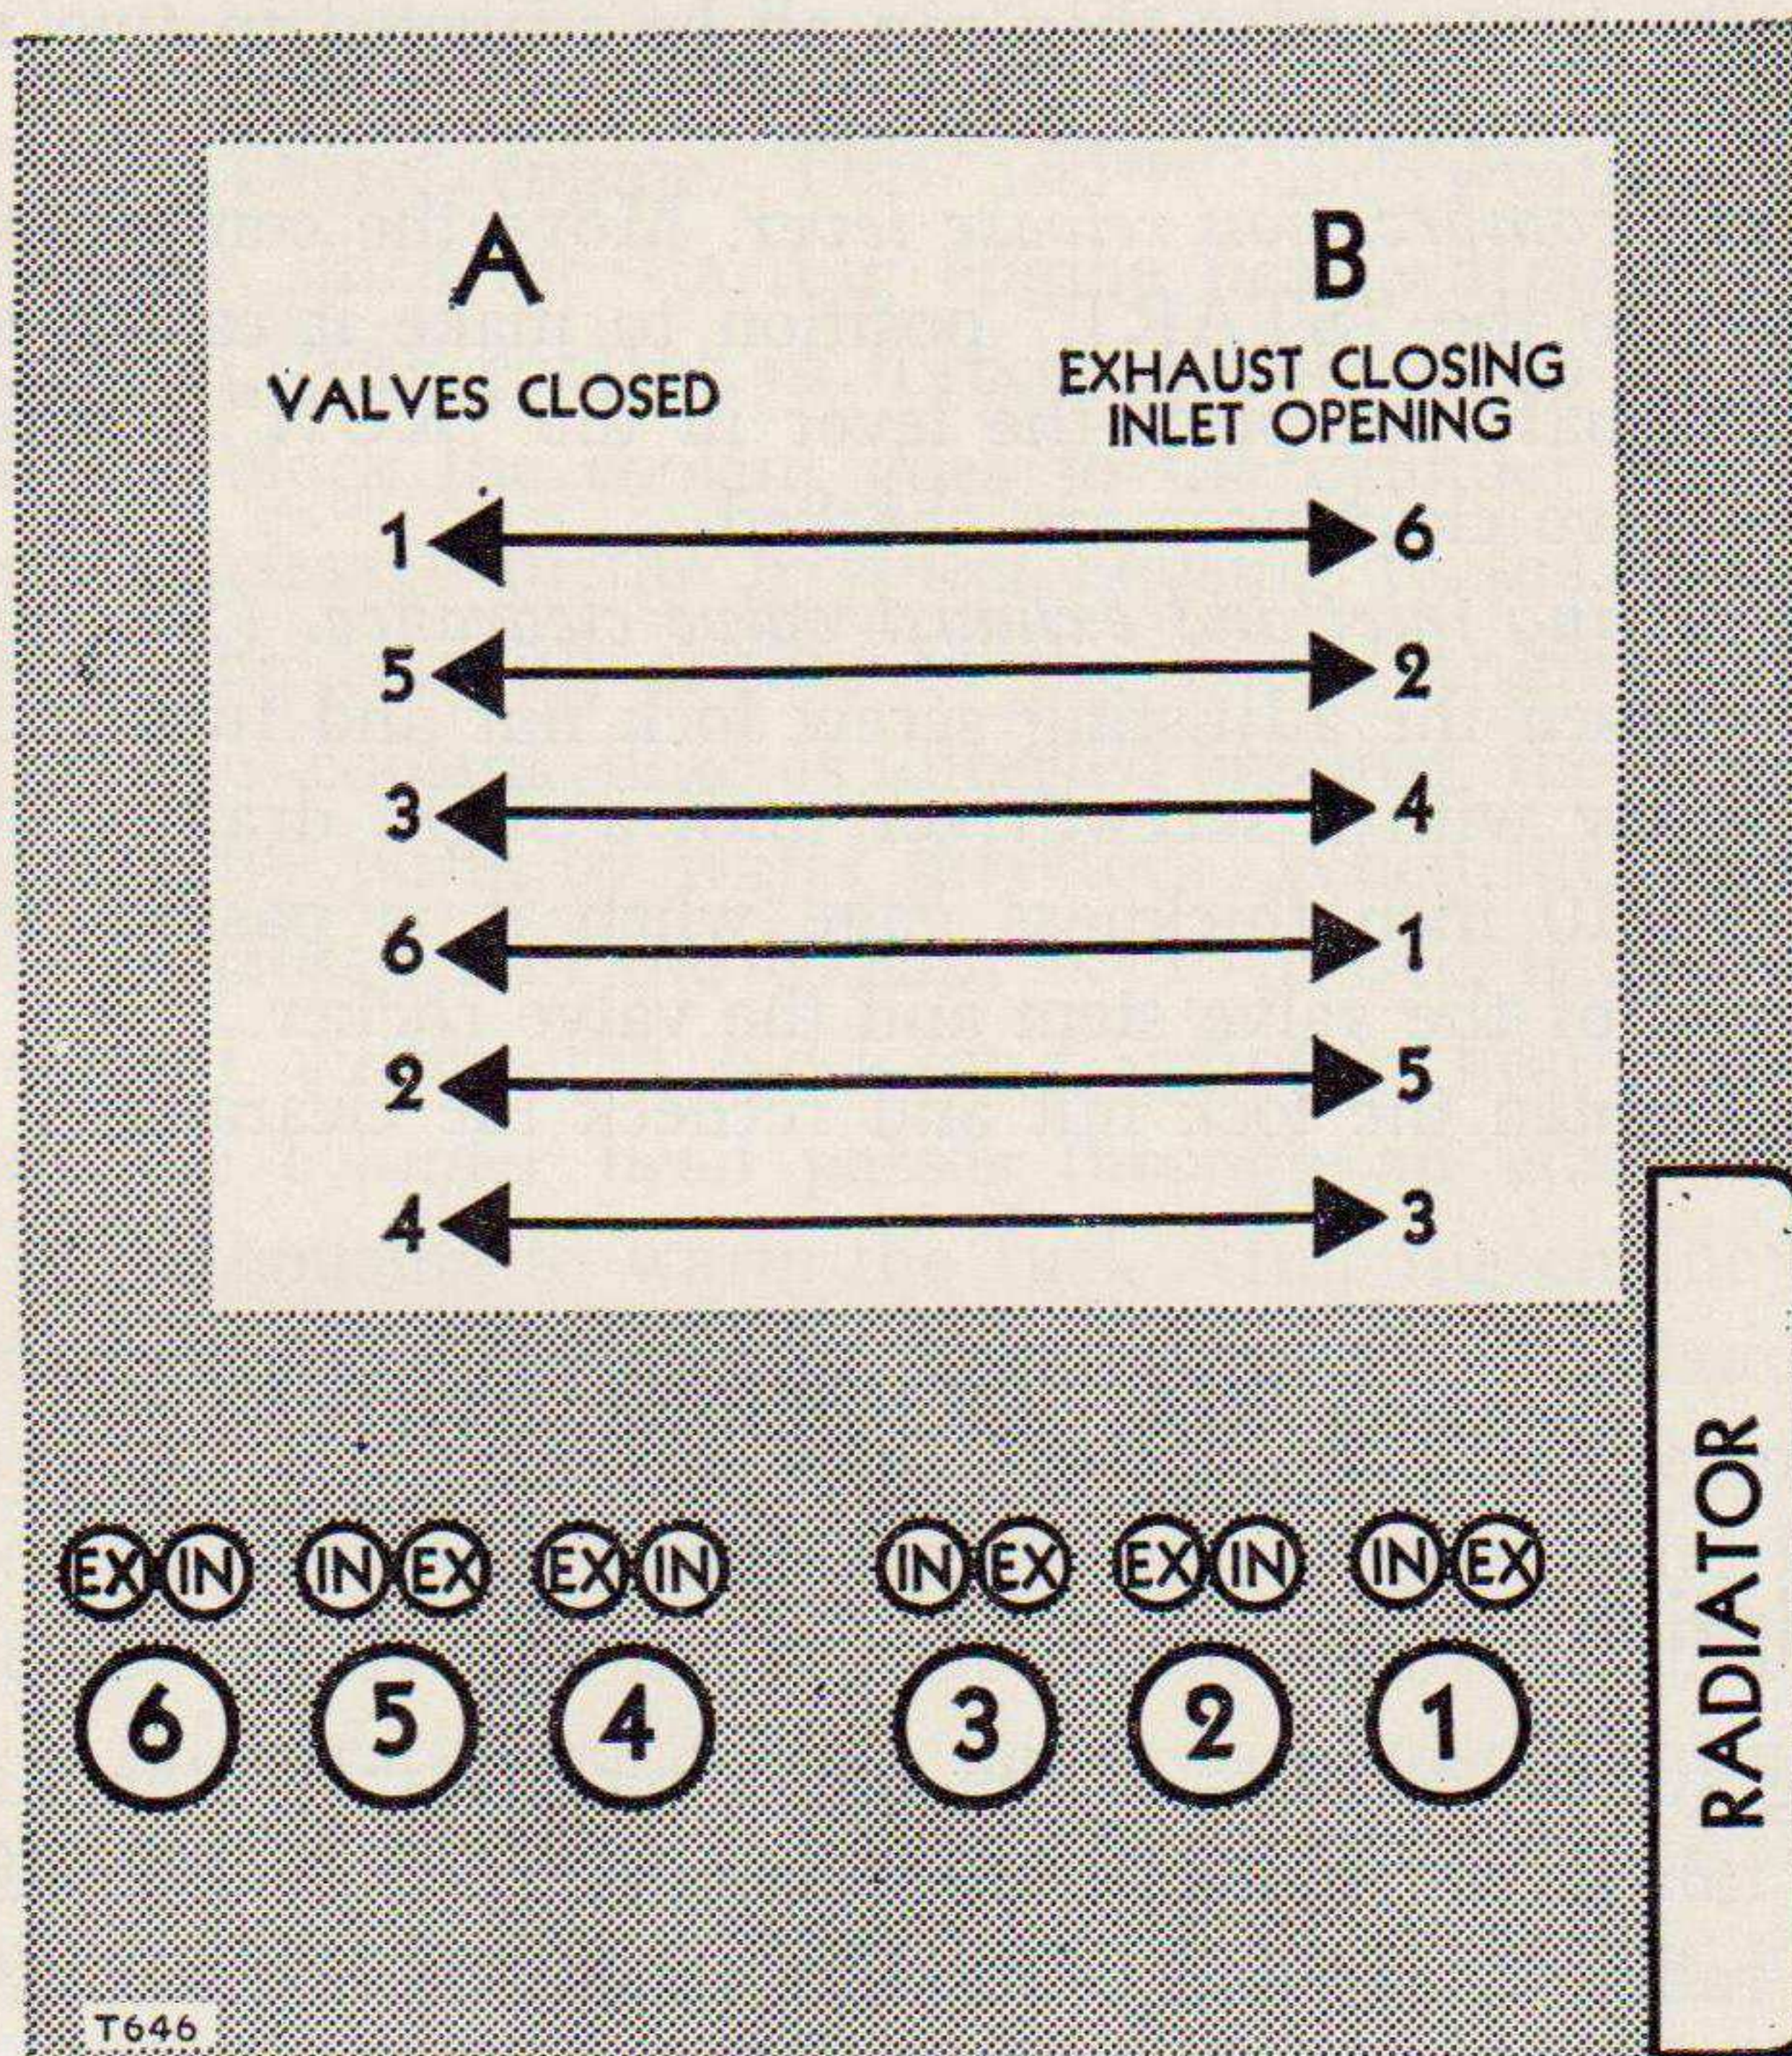

Figure 69. Valve closing procedure.
- (1) *General.* The valve clearance adjustment is correct on both inlet and exhaust valves when there is .010 inch clearance between the valve rocker and the valve stem, with the engine hot, the valves closed and the compression release in the "RUN" position. If the adjustment is not completed while the engine is still warm, start the engine and allow it to warm up again. At the end of the day's operation, while the engine is at its normal operating temperature, is the most desirable time for valve clearance adjustment.
- (2) *Remove the valve cover.* Remove the engine hood and the valve cover.
- (3) *Close the valves.* (See fig. 69.) The valves being checked must be entirely closed before the valve clearance can be checked or adjusted. To close both valves on each of the cylinders listed under A, rotate the crankshaft until the exhaust valve is about to close and the inlet valve starts to open on the cylinders listed opposite under B. If the valves are adjusted